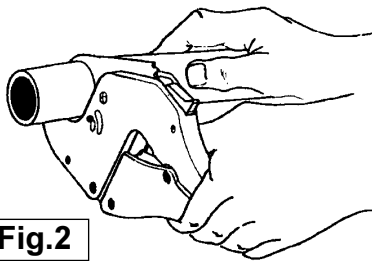

Fig.2
- 3.1.2. Repeatedly squeeze the trigger handle to pierce and cut through the pipe. (See fig.2)